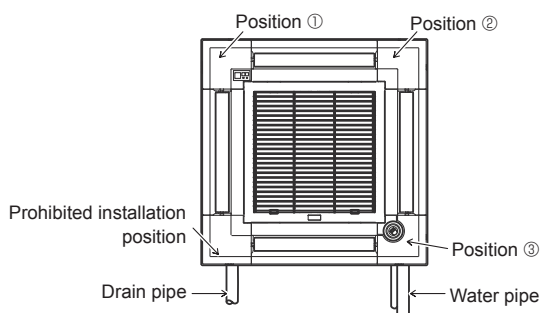

Fig. 7-11
The signal receiver corner panel can not be installed on the drain pipe side for the main unit. (Refer to Fig. 7-11)
- The i-see Sensor corner panel should be fixed onto the grille (1) with screw (3).
- * If the position of the i-see Sensor was changed from default position (position 3) to the other position, change the function settings. (Fig. 7-11)
- The i-see Sensor corner panel can not be installed on the drain pipe side for the main unit. (Refer to Fig. 7-11)